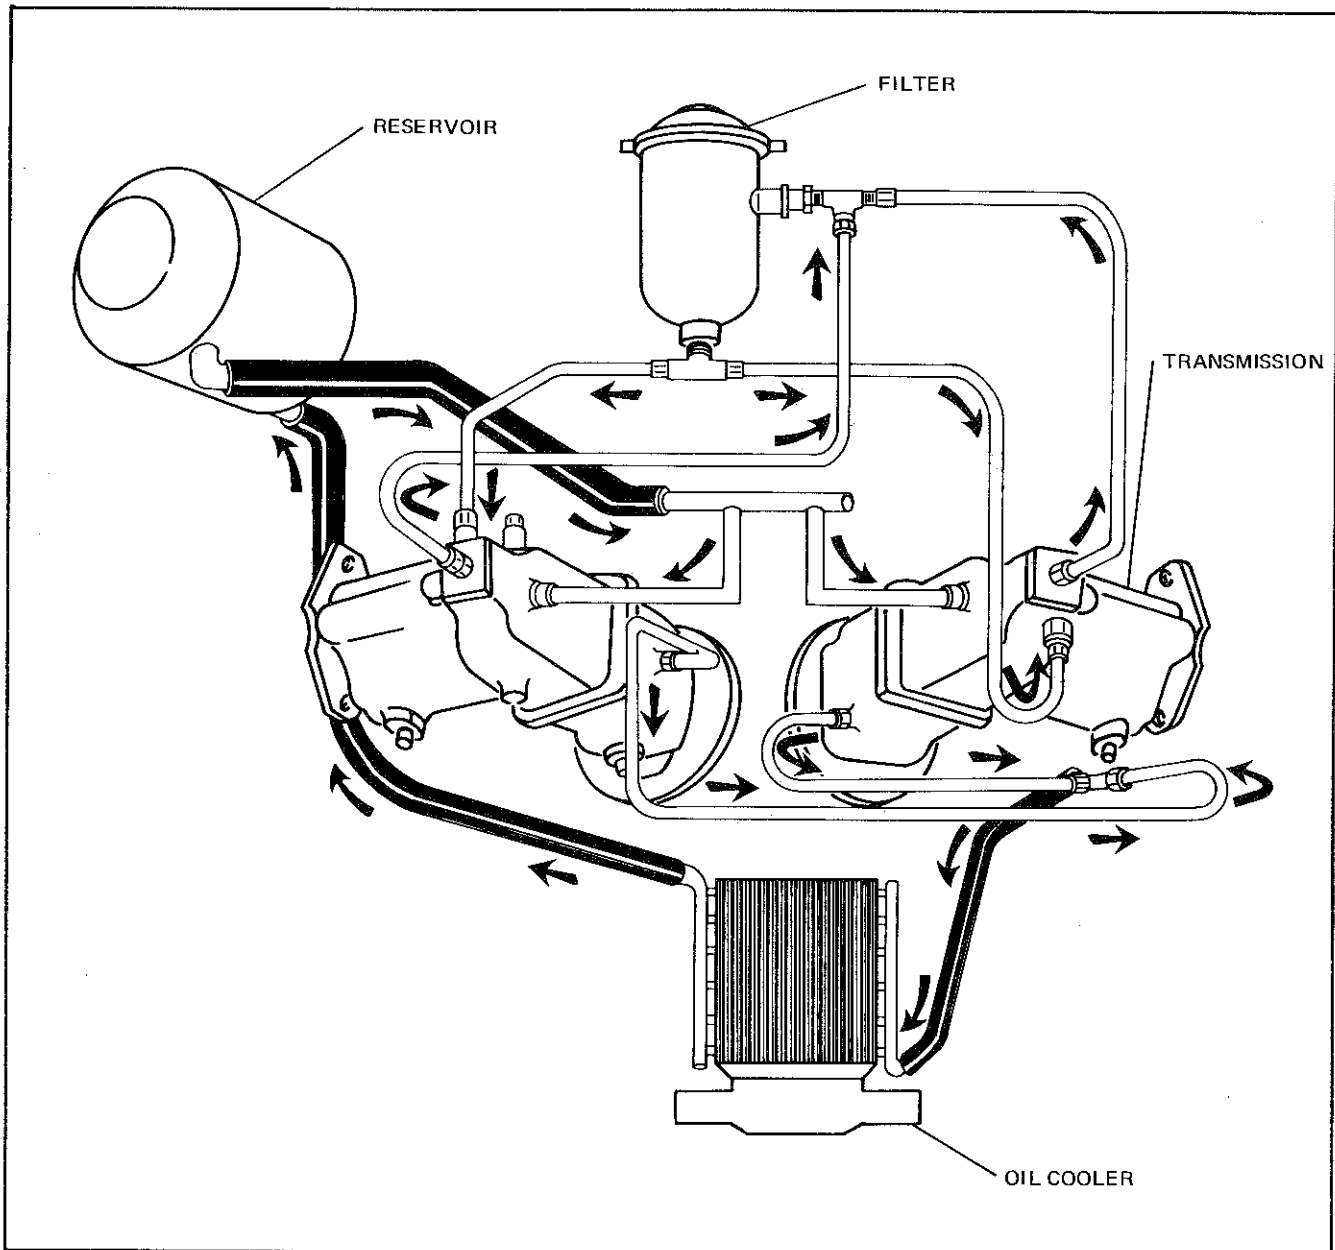

Figure VI-48. Simplified Flow Diagram K1D Hydraulic System
- **Hydraulic System (figure VI-48)**